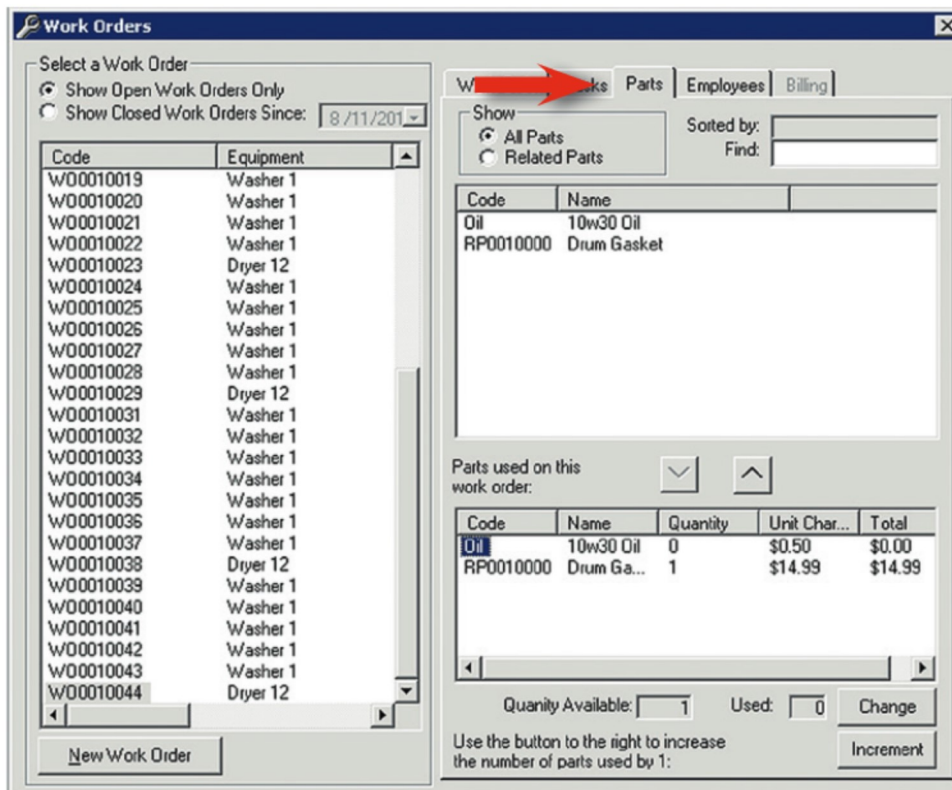

Figure 39. Work Orders: Parts dialog.
3. Click the **Parts** tab (see Figure 39).